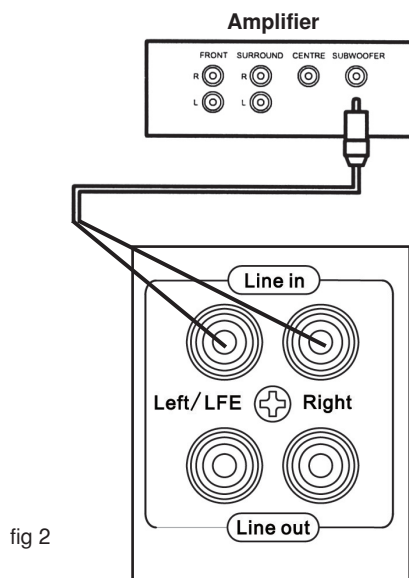

fig 2
Surround amplifiers provide a separate subwoofer line output, use a "Line Cable" from this output to **LINE IN** left (L), fig. 1. You can also use a "Split Cable" to connect the subwoofer line output to both **LINE IN**, left (L) and right (R), fig.2. The sensitivity then increases with 6 dB. This way to connect is to be preferred.